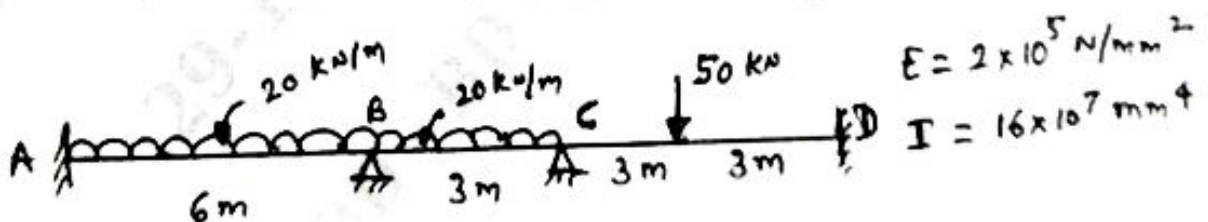

Fig Q3
3. Analyse the continuous beam shown in Fig Q3 by moment distribution method. Draw bending moment diagram and shear force diagram. Support at B sinks by 10mm.